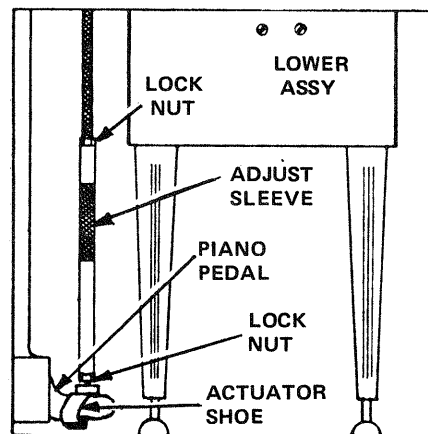

FIGURE 9-16 Pedal Actuator adjustment parts.
- B. Loosen the Lock Nuts at the top and bottom of the Adjustment Sleeve on the SUSTAIN Pedal Actuator (see FIGURE 9-16), turn the Adjustment Sleeve CLOCKWISE a turn or two, strike and release a group of Keys, and listen for notes being sustained. Repeat this procedure until the notes are no longer being sustained, then tighten the Lock Nuts until they are finger tight. See the NOTE below.